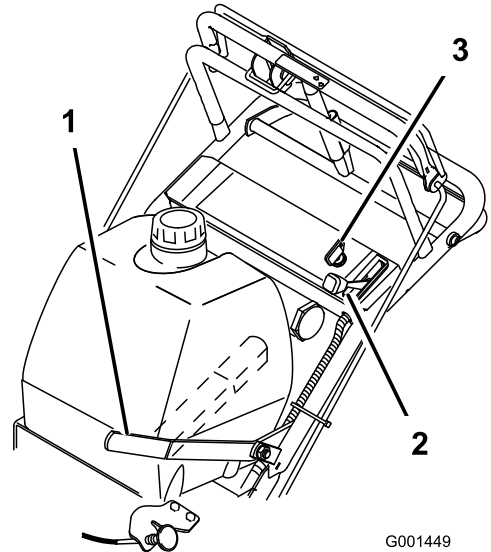

Figure 6
1. Move the throttle lever to the SLOW position (Figure 6).